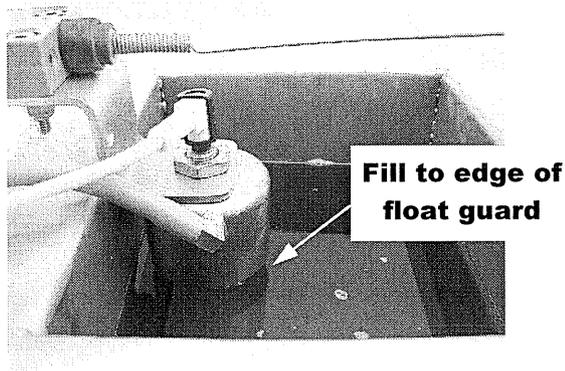

Figure 1
- 2) Fill tank with anti-spatter fluid to the bottom of the float guard. (See Figure 1, Pg. 9)
- 3) Fill tank with anti-spatter fluid to the bottom of the float guard. (See Figure 1, Pg. 9)